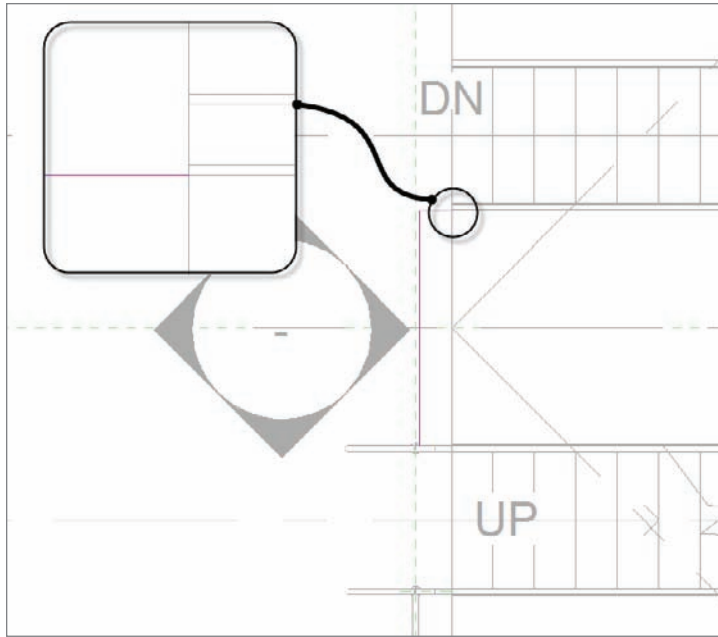

FIGURE 10.27 Adding the railing to the middle of the stair landing
3. Using the same 8 1/2" offset, draw the sketch of the railing as shown in Figure 10.27.